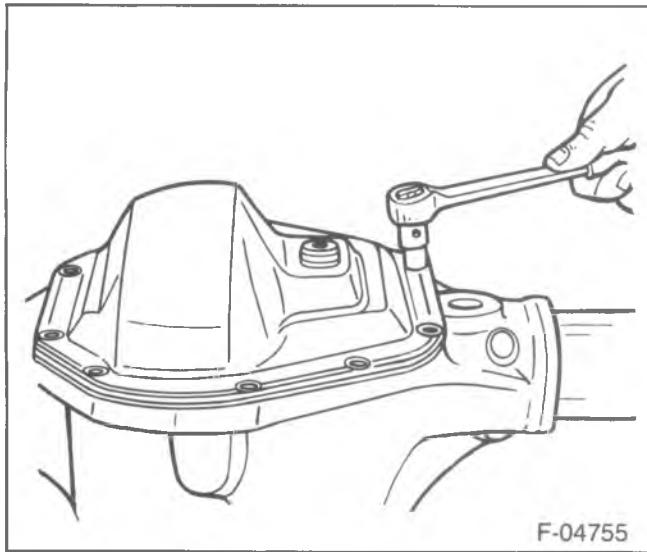
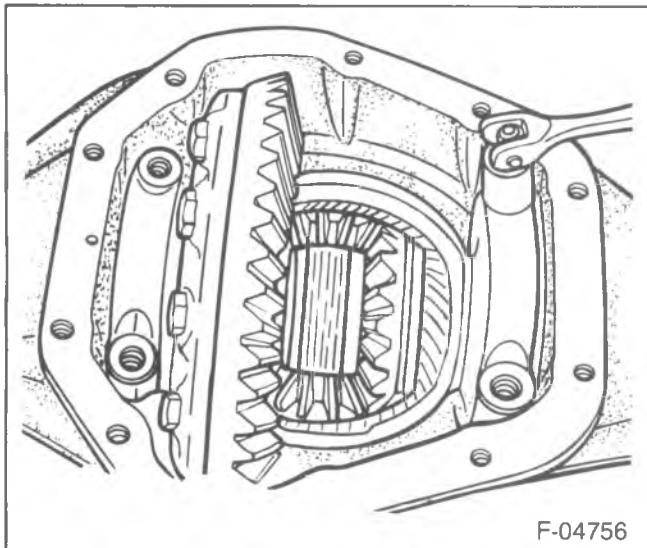
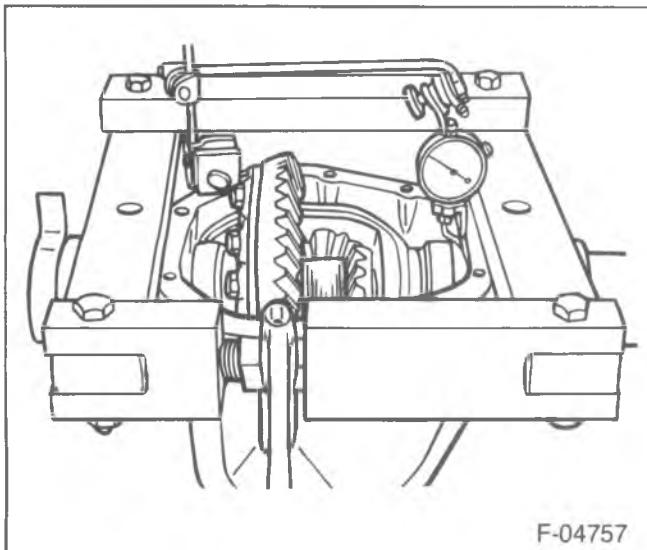

Figure 125—Removing the Axle Cover
Figure 126—Removing the Bearing Cap
Figure 127—Spreading the Differential Case
1. The differential cover bolts (17) and the differential cover (14) (figure 125).
2. Axle shafts (40). Refer to the proper service manual.
3. Bearing cap bolts (19) (figure 126).
4. Bearing caps (18).
- Assemble J-24385-01 to the differential housing as shown in figure 127).